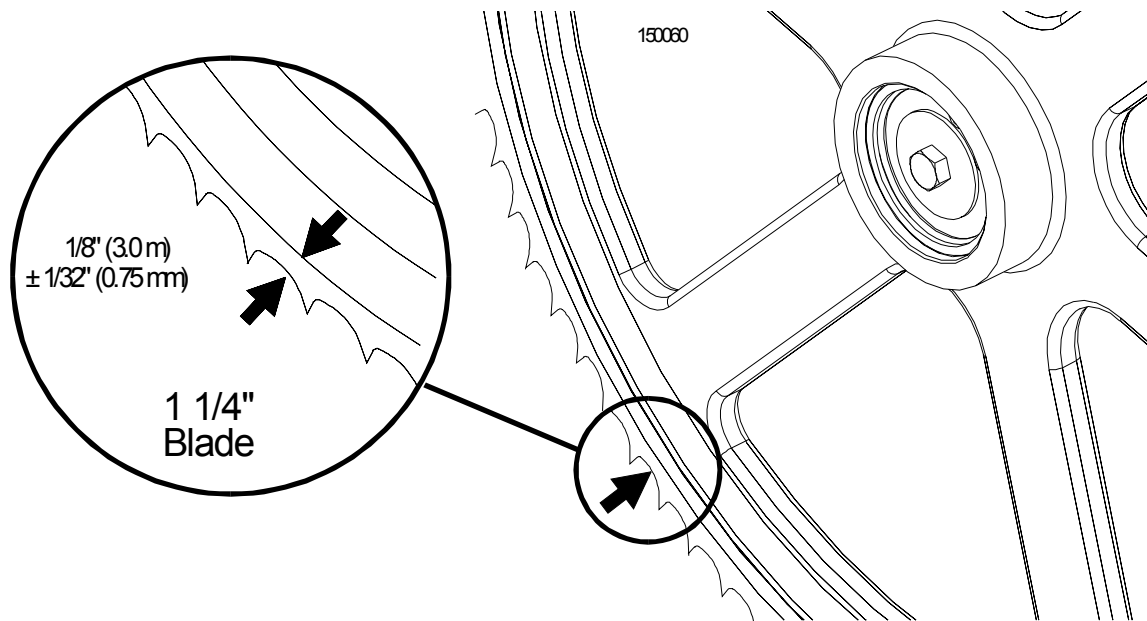

FIG. 6-1
**See Figure 6-1.** The blade wheels should be adjusted so that the gullet of 1 1/4" blades ride 1/8" (3 mm) out from the front edge of the wheels ( $\pm 1/32$  [0.8 mm]). The gullet of 1 1/2" blades should ride 3/16" (4.5 mm) from the front edge of the wheels ( $\pm 1/32$  [0.8 mm]). Do not let the teeth ride on the wheels.